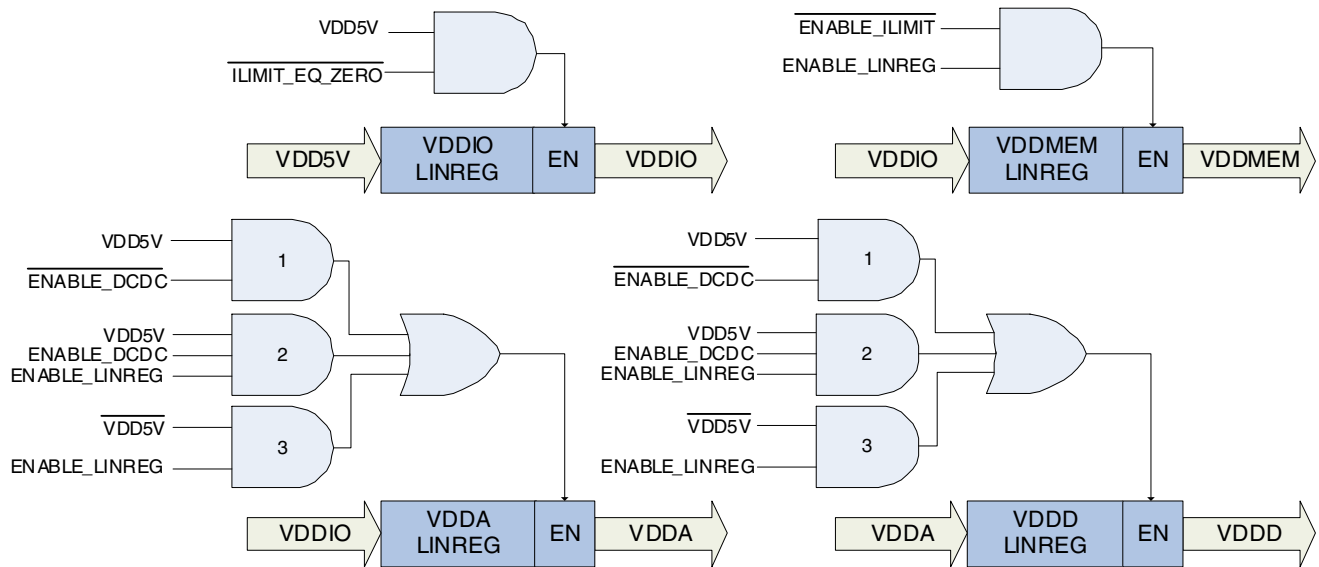

Figure 4. Enable Logic for Linear Regulators
The VDDD, VDDA, VDDIO and VDDMEM rails can be powered from LinRegs. For VDDIO, the LinReg can only be enabled when 5 V is present. Additionally, the 5 V current limiter must be disabled for VDDIO to operate. For VDDD and VDDA, the rail's LinReg is enabled with particular combinations of 5 V status, ENABLE_DCDC status and the rail's LinReg enable bit. VDDMEM only requires its enable bit to be set. Figure 4 shows each LinReg power source and enable logic.
The first combination is the default configuration when the device is powered on by 5 V. In this case, indicated by AND-gate 1 in Figure 4, ENABLE_DCDC is false and 5 V is present. This means the presence of 5 V can activate or deactivate the rail's LinReg without any software interaction.
In the second case, AND-gate 2 in Figure 4, the LinReg is activated when 5 V is present, ENABLE_DCDC is true, and ENABLE_LINREG is true. The DC-DC is active because ENABLE_DCDC is true. When 5 V is present and ENABLE_DCDC is true, the ENABLE_LINREG bit for the rail must be set to activate the LinReg.
The third case occurs when 5 V is not present and is indicated by AND-gate 3 in Figure 4. In this scenario, the VDDD and VDDA LinReg are enabled by simply setting ENABLE_LINREG.
1. Determine the logic that enables the LinReg. See Figure 4 for each LinReg's requirement. 5 V is present in this example.